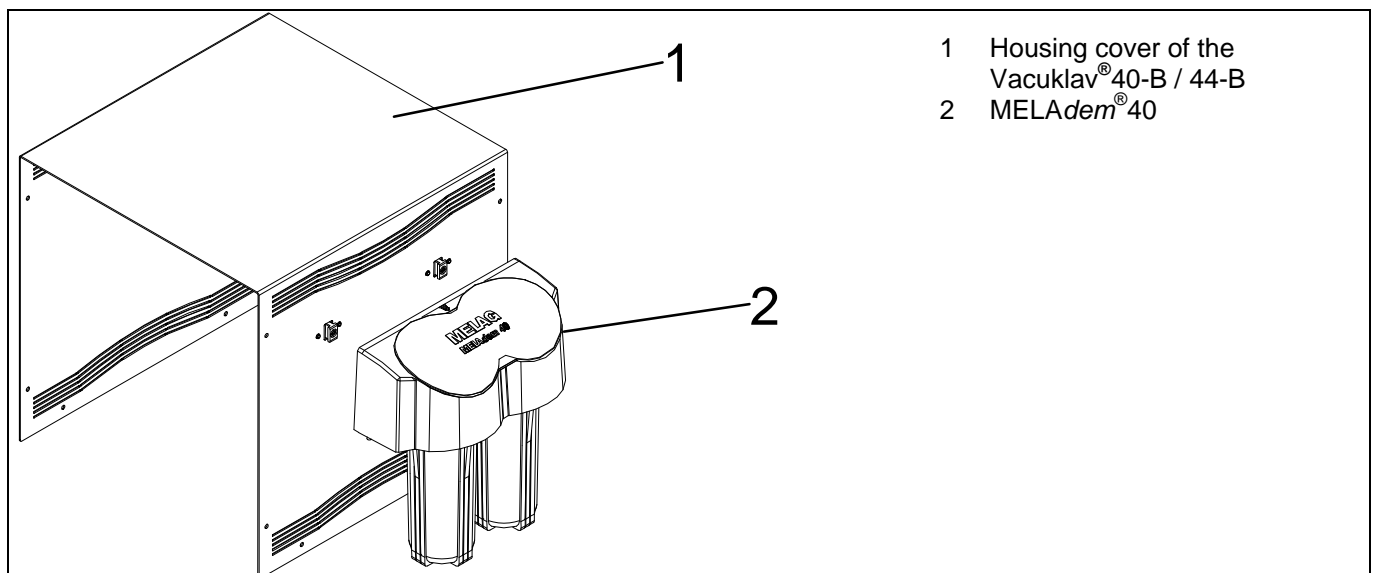
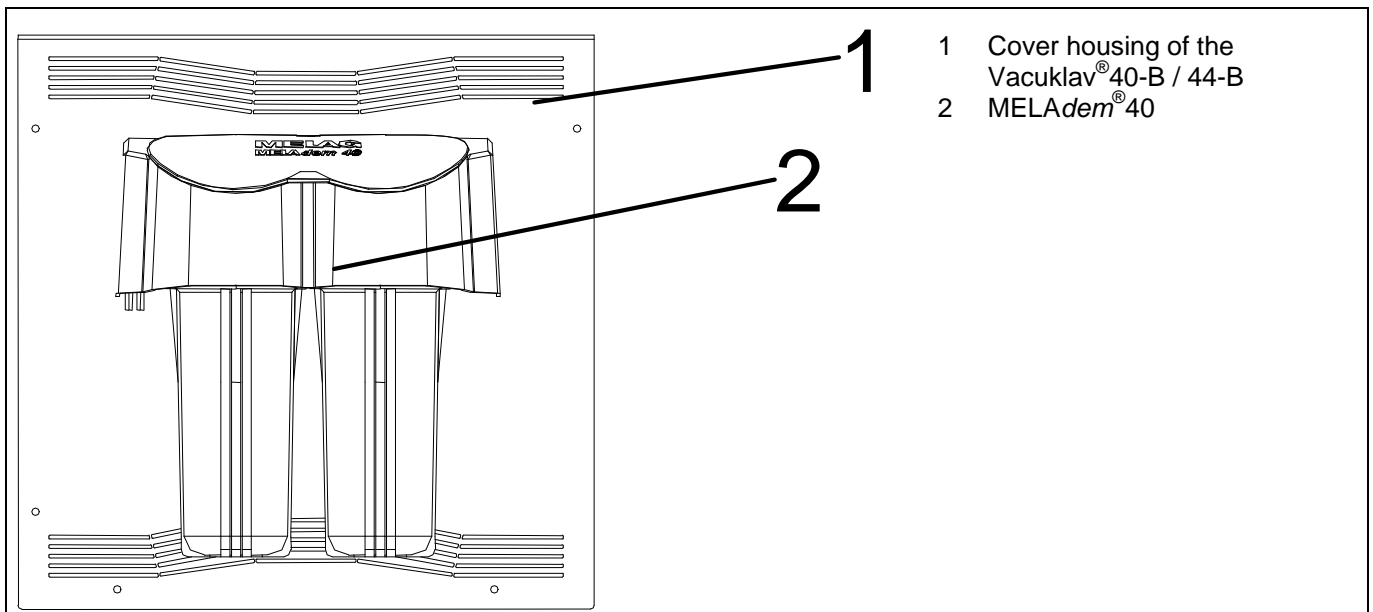

Figure 5: Position for hanging the MELAdem[®]40 to the Vacuklav[®]40-B / Vacuklav[®]44-B
Figure 6: Correct position of MELAdem[®] 40 on the housing of Vacuklav[®] 40-B / Vacuklav[®] 44-B
3. Hang the MELAdem[®] 40 down into the mounting fixtures by sliding it vertically from above, and push it downward until it locks firmly into place (see Figure 5). The final position is shown in Figure 6 below.